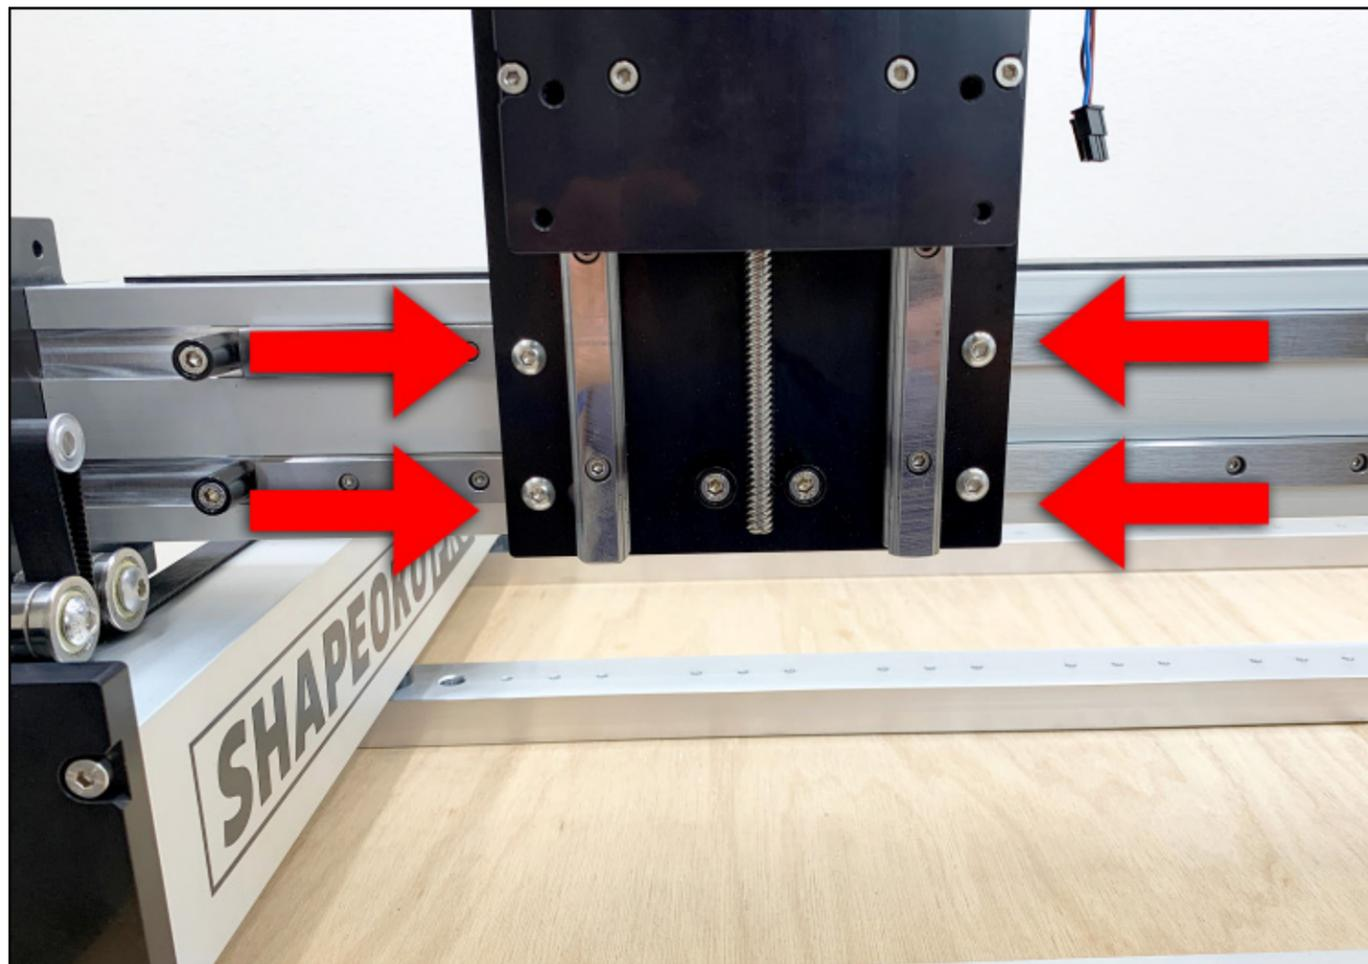

Figure 5-2
2. Position the X/Z assembly over the front of the X-Axis carrier plate. **See Fig. 5-2.**
3. Use a 4mm hex key and four (4) M6×12mm BHCS to secure the X/Z assembly to the X-Axis carrier plate. Fully tighten.